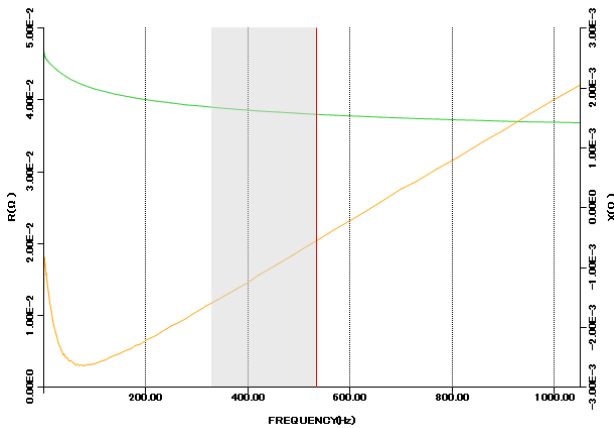
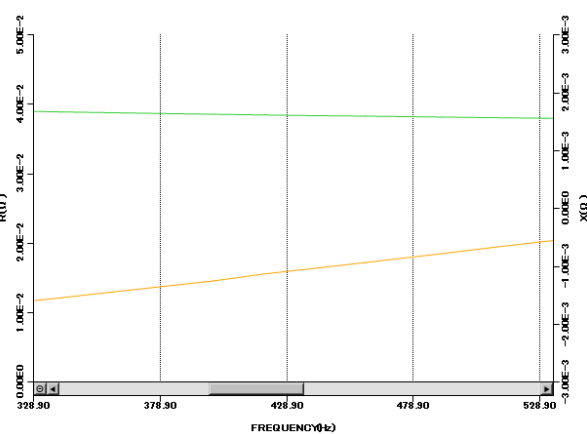

Fig 3-31. Zoom (Parameter)
Fig 3-32. Zoom (Parameter)
Parameter	<p>(1) Press the left button of the mouse on the graph area.</p> <p>(2) Drag the mouse along the X axis.</p> <p>(3) Lift the left button of the mouse up on the graph area.(Fig.3-31)</p> <p>(4) Graph will be zoomed along the X axis.(Fig.3-32)</p> <p>(5) To cancel the zoom, click  button of X axis.</p>